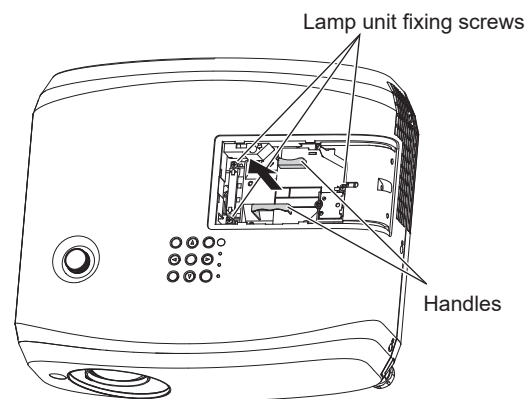

Fig. 2
3) Remove the air filter unit. (Fig. 2)
2) Dry the air filter unit. (Fig. 2)
- Remove the lamp unit. (Fig. 2)**